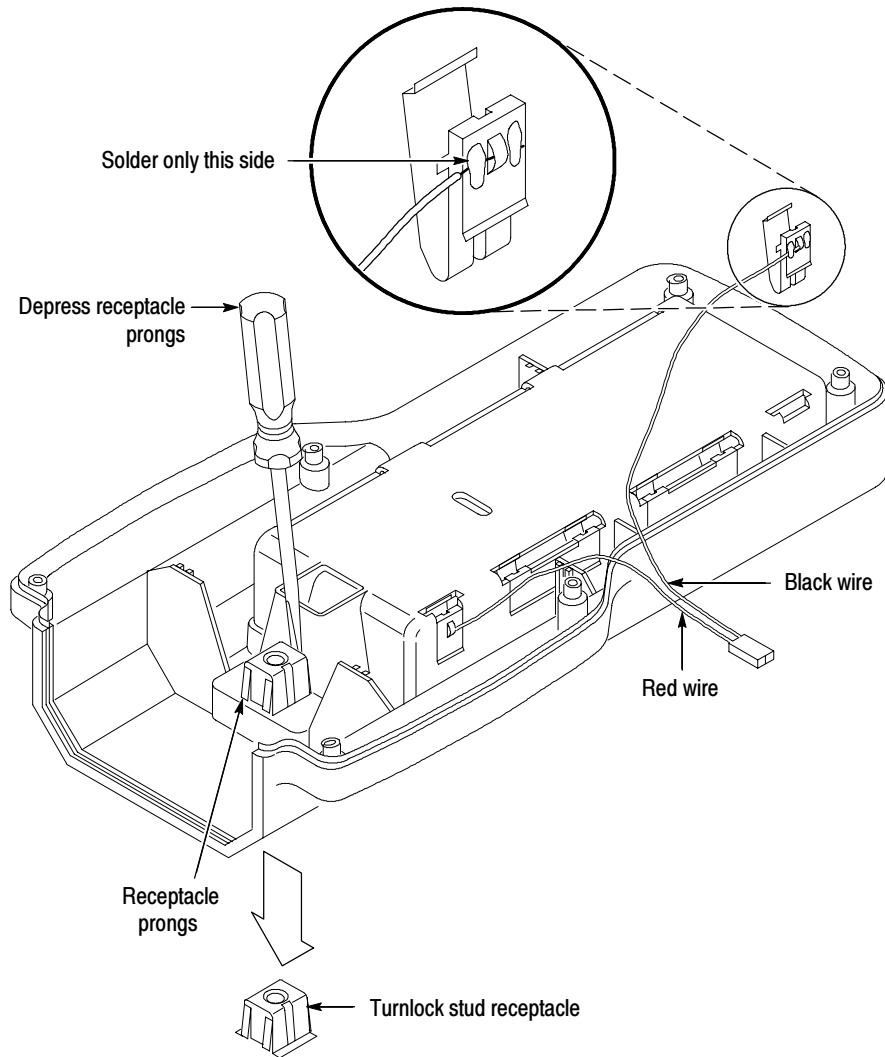

Figure 6-13: Battery power-wire and turnlock stud receptacle installation
4. Lift the Bottom board slightly out of the top cover so that you can pull the battery-power wires from jumper J21 of the Bottom board. See Figure 6-13.
1. Solder the battery power connector wires to the battery contacts. See Figure 6-13.
3. If you replaced one of the battery contacts that had the battery-power wires soldered to it, resolder the battery connector wire to the battery contact. See Figure 6-13.
2. Depress the retaining fingers on the turnlock stud receptacle and push the receptacle through the bottom cover. See Figure 6-13.
1. Push the turnlock stud receptacle through the bottom cover. Be sure the retaining fingers snap into position. See Figure 6-13.